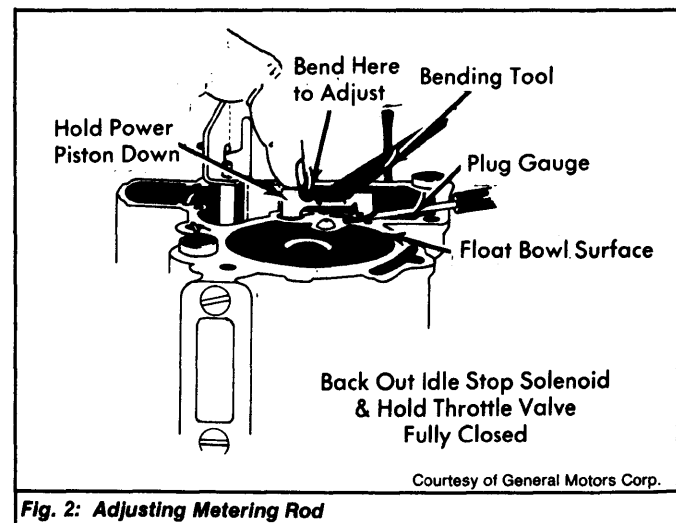

Fig. 2: Adjusting Metering Rod
1) Remove air horn and gasket. Hold throttle valve wide open. Push down on metering rod against spring tension. See Fig. 2. Slide metering rod out of slot in holder and remove from main metering jet.